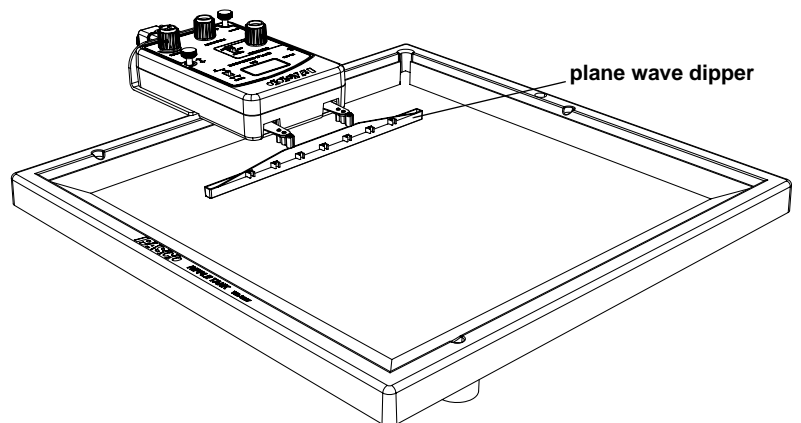

Figure 6.2: Plane Wave Dipper
5. Connect the plane wave dipper to the ripple arms. Adjust the ripple generator until the bottom of the plane wave dipper is barely in contact with the surface of the water. See Figure 6.2.